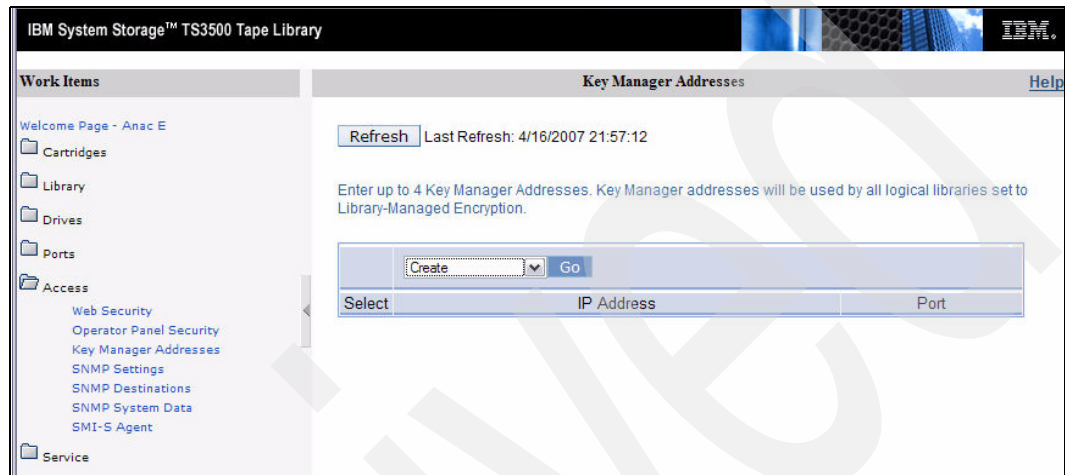

Figure 7-25 IBM TS3500 Tape Library - Key Manager Addresses window
2. Select the **Access** → **Key Manager Addresses** menu and choose **Create** from the drop-down menu as shown in Figure 7-25.